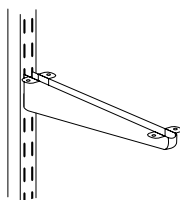

Fig. 2
- 2 Install the Special-purpose Braces into the brackets' gaps (Fig. 2)